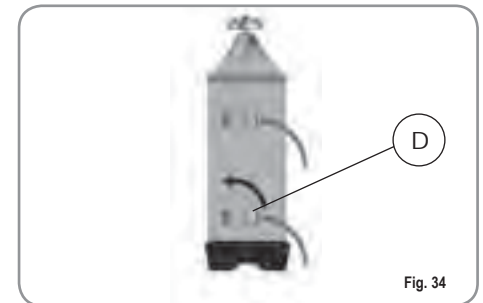

Fig. 34
- 3) Reposition lever D towards the left (Fig. 34).